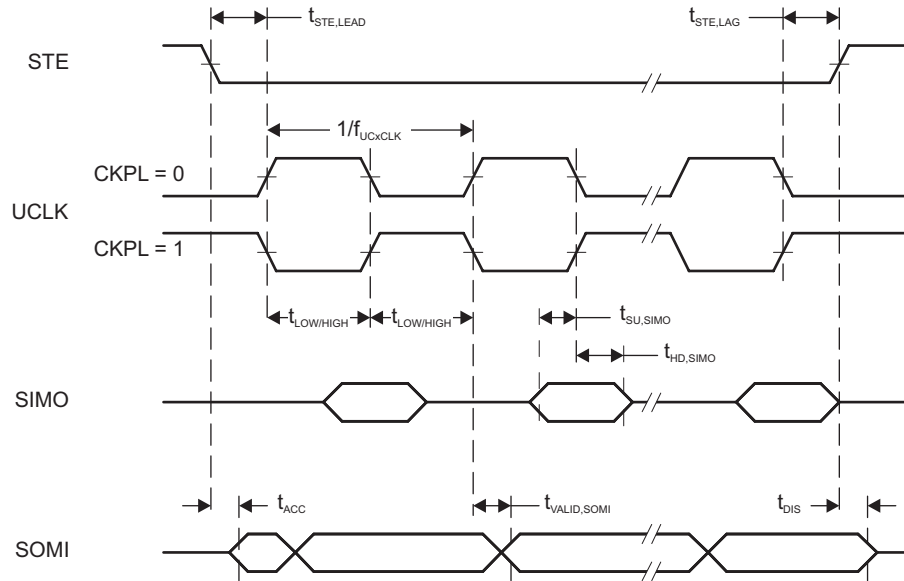

Figure 5-25. SPI Slave Mode, CKPH = 0
over recommended ranges of supply voltage and operating free-air temperature (unless otherwise noted)(1) (see Figure 5-25 and Figure 5-26)
- (2) Specifies the time to drive the next valid data to the SOMI output after the output changing UCLK clock edge. See the timing diagrams in Figure 5-25 and Figure 5-26.
- (3) Specifies how long data on the SOMI output is valid after the output changing UCLK clock edge. See the timing diagrams in Figure 5-25 and Figure 5-26.